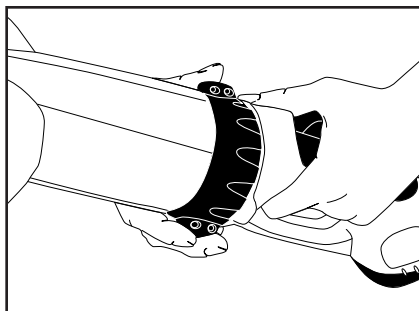

Figure 6
1. Grasp the tool attachment firmly with one hand (note, do not grasp on a rotating part such as the auxiliary handle), and twist the lock ring on the power handle to the unlocked position with the other hand. (see figure 6)